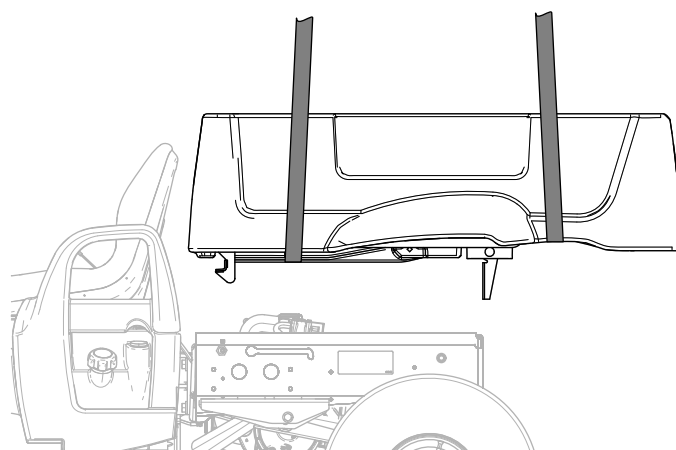

Figure 6
9. Lift the cargo bed up and off the machine (Figure 6).
4. Lift the cargo bed up and off the machine (Figure 6).